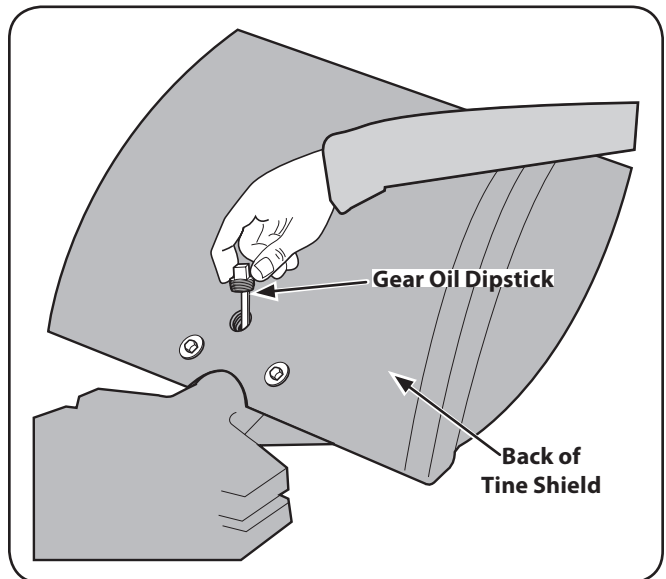

**Figure 6-6**
4. Use a  $\frac{3}{8}$ " wrench to remove the oil level check plug on the left side of the transmission housing. See Fig. 6-6.
- Remove the dipstick from the tine attachment. See Fig. 6-6.